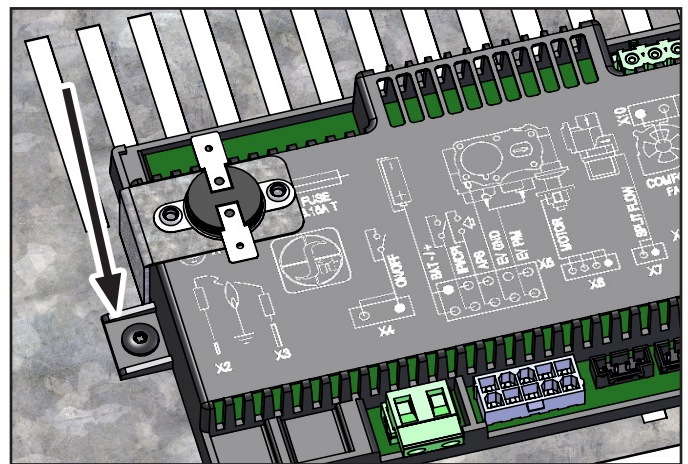

Figure 12. Hi-Limit Switch - Correct Placement
Step 2: Using a T20 screwdriver, loosen the left mounting screw of the IFC and slide the Hi-Limit Switch Bracket onto the IFC as shown. Next, retighten the left mounting screw (see Figure 12).
Note: Placement of the Hi-Limit switch is not arbitrary and must be correct for proper operation. When correctly installed, the bracket should contact both the mount flange and left side of the IFC (Figure 12).